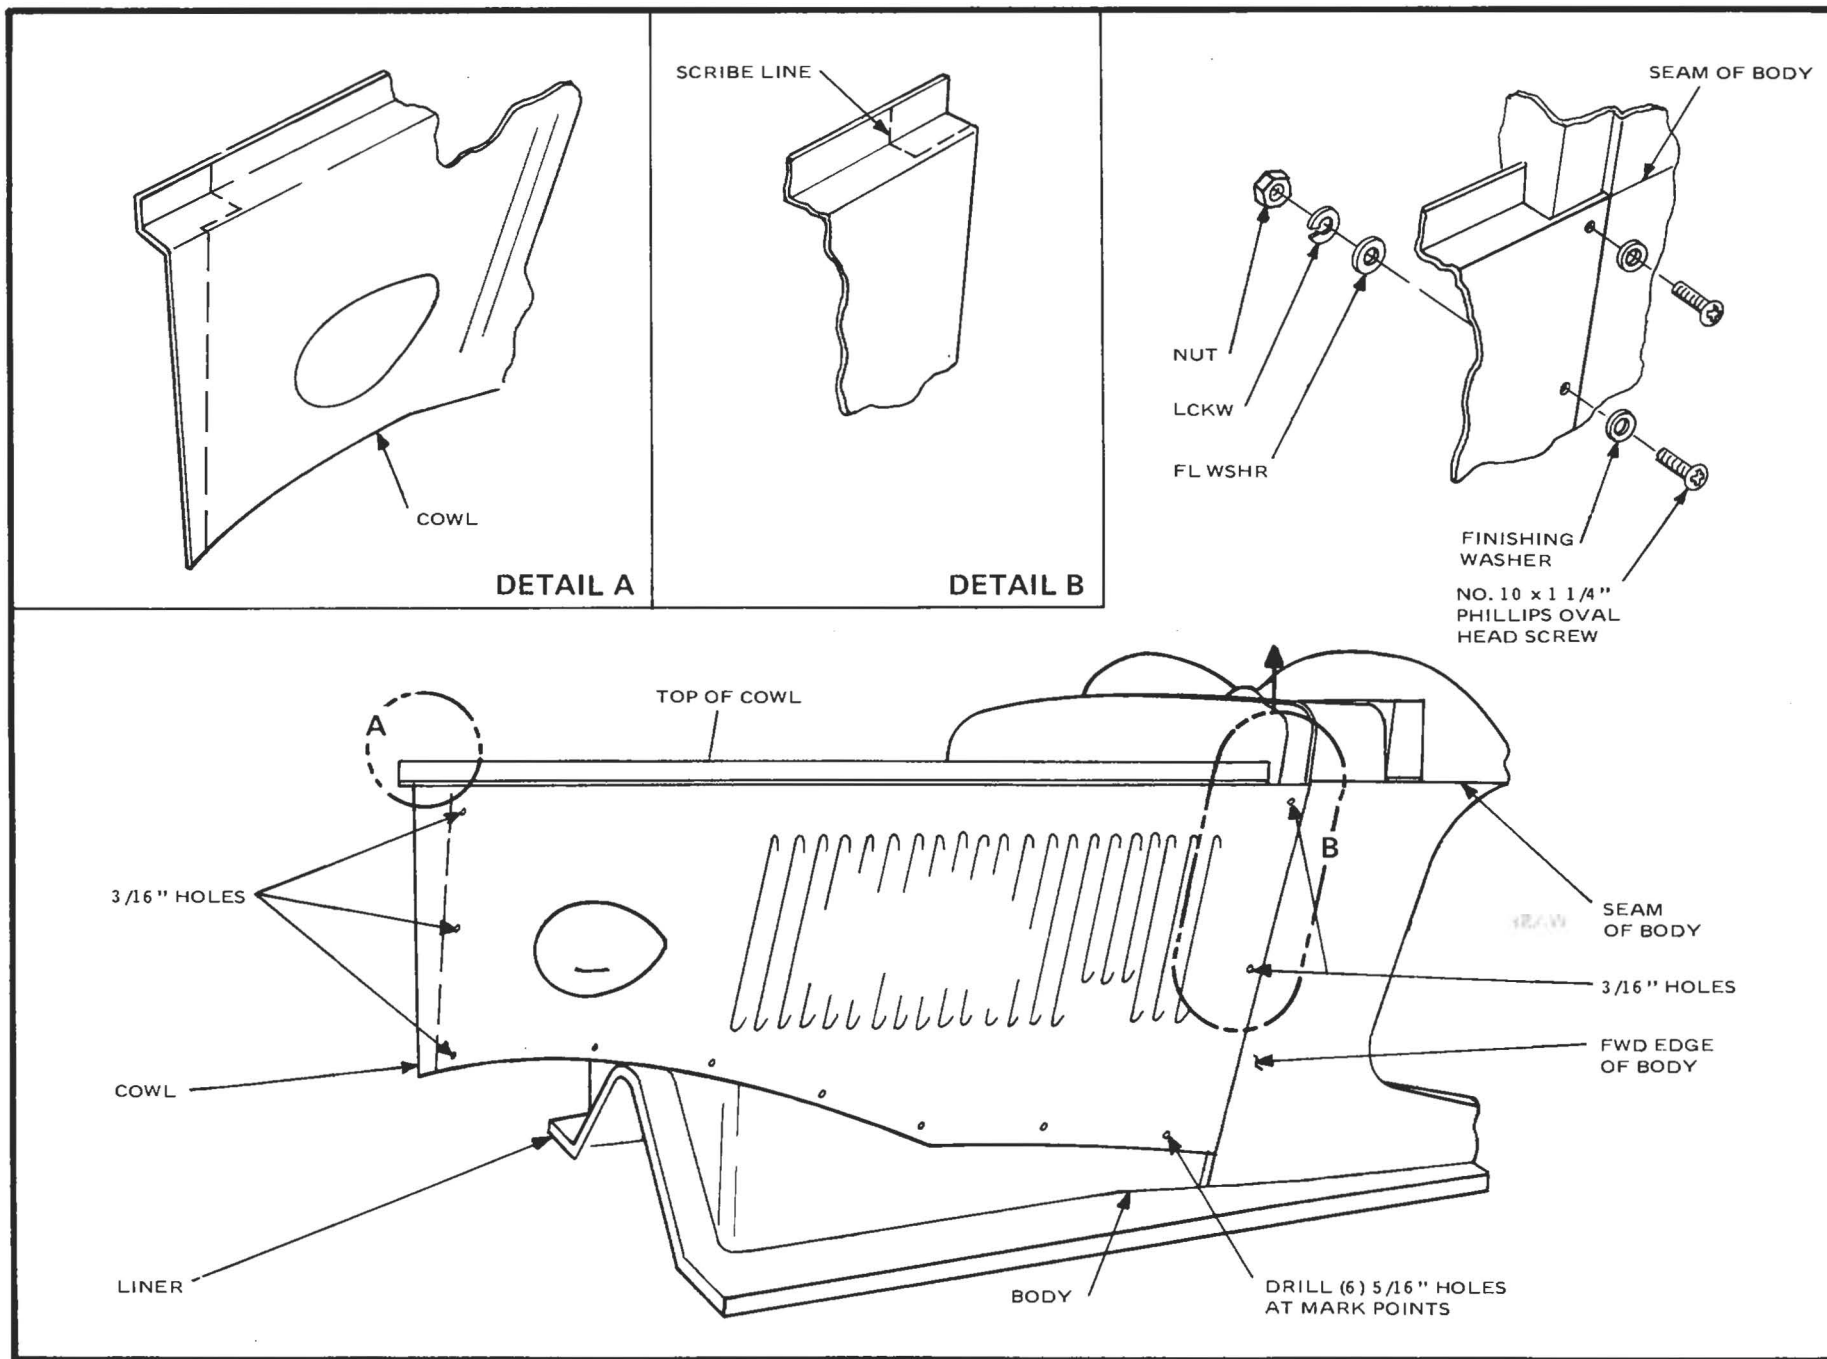

Figure 19
- ☐ Trim cowls as per diagram. (Figure 19) Drill at the marked points. Carefully align cowls with the body, matching rear of cowls with forward edge of body. Move cowls up and down until top of cowl is aligned with seam of body.